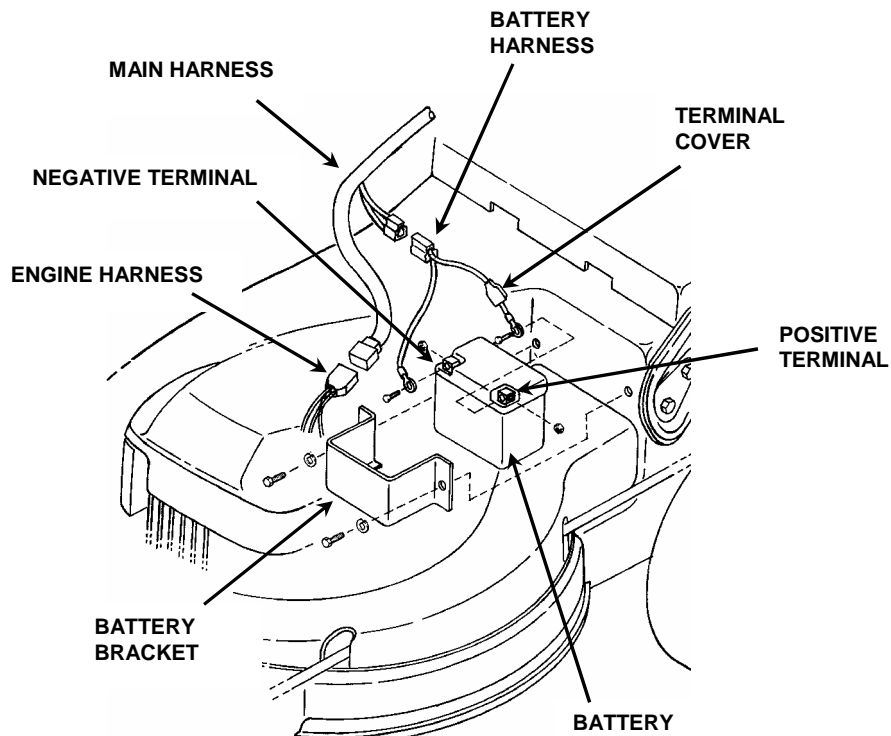

FIGURE 4
7. Loosen bolts that secure battery bracket to deck. Slide battery into battery bracket. Tighten bracket bolts securely. See Figure 4.
8. Connect battery harness to main harness. See Figure 4.